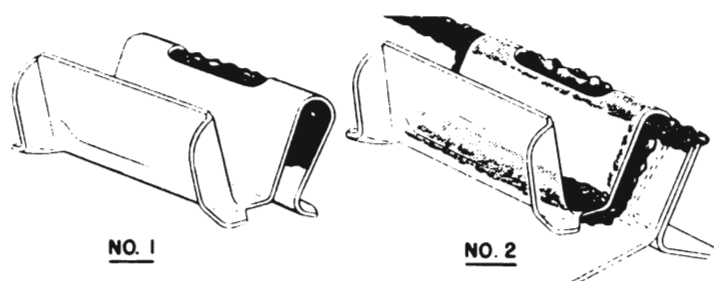

Figure 13-35—Sealing of Reveal Molding Retainers
1. Fill the reveal molding retainers with 3-M Rubber Adhesive in the section which fits over the pinch-weld flange. See figure 13-35, view No. 1. Install retainers in their original positions over pinch-weld flange, then apply a bead of 3-M Rubber Adhesive completely around windshield opening and also in the valley and edges of the molding retainers. See figure 13-35, view No. 2.